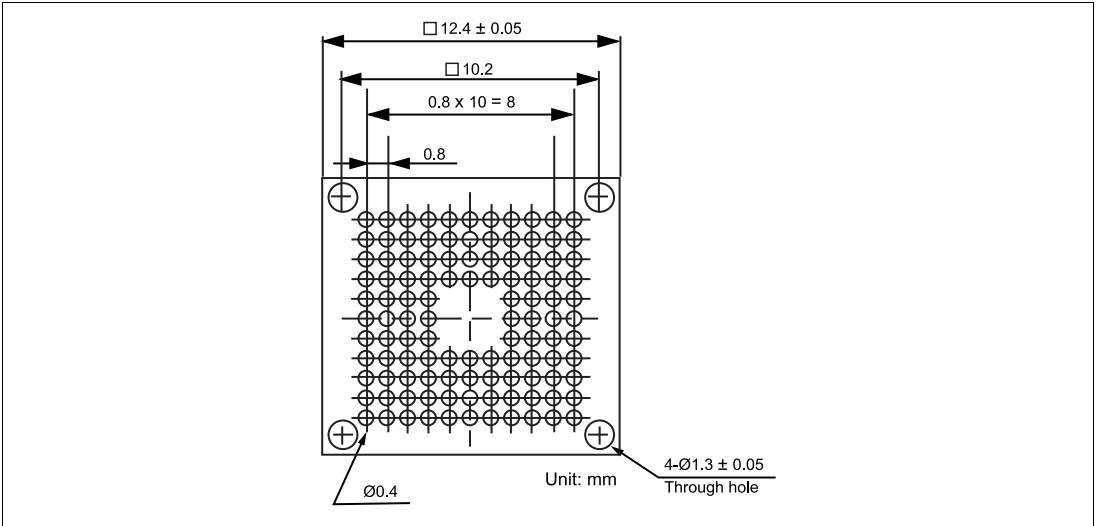

Figure 8 Recommended Dimensions for Mount Pad
- (3) Install the provided guide pins into the holes for the guide pins on the user system. Check that the pads are correctly aligned with the IC socket.
(4) Notes on soldering the IC socket
- a. The IC socket is larger than the actual IC package; therefore, refer to figure 8 for the installation of other components.
Figure 8 shows the recommended dimensions for the mount pad (footprint) for the user system with an IC socket for a BP-112 package (CSPACK112A1110H02: socket (manufactured by Tokyo Eletech Corporation)). Note that the dimensions in figure 8 are somewhat different from those of the actual MCU's mount pad.